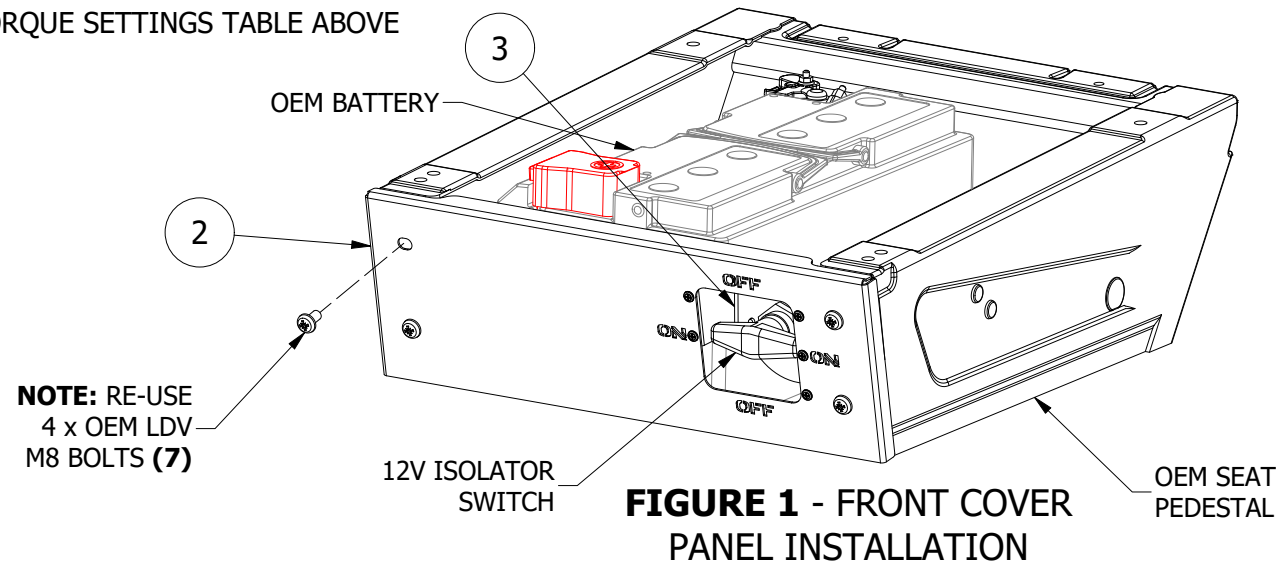

FIGURE 1 - FRONT COVER PANEL INSTALLATION
3. ASSEMBLE AND FIT NEW FRONT COVER PANEL (2)(3) RE-USING THE OEM M8 BOLTS (10). THE 12V ISOLATOR SWITCH ALSO GETS FITTED TO THIS PANEL (FIGURE 1)